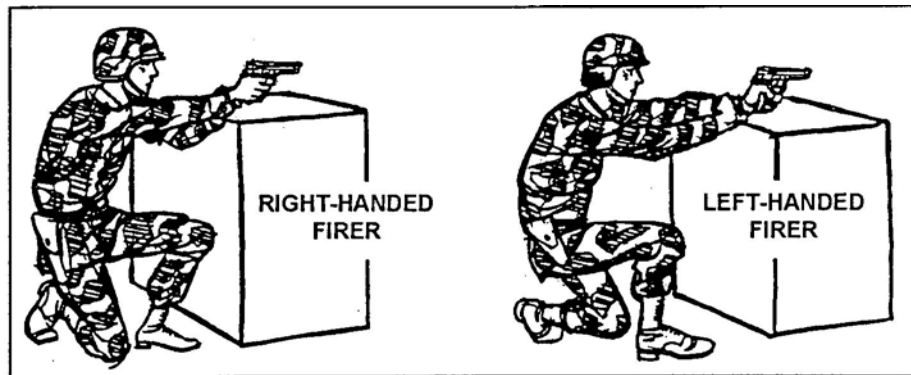

Figure 8. Kneeling position.
- c. Kneeling (Figure 8). To assume this position--
- (1) Use available cover for support such as a low wall, rocks, or a vehicle that you can fire over.
- (2) Place your firing knee on the ground. Put your left knee down to fire left-handed, or your right knee down to fire right-handed.
- (3) Bend your other knee. Place the foot on your nonfiring side flat on the ground, pointing toward the target. Extend your arms over available cover and use it for support.
- (4) Lock the wrist and elbow of your firing arm.
- (5) Wrap your nonfiring hand around your firing fist or wrist to support your firing arm.